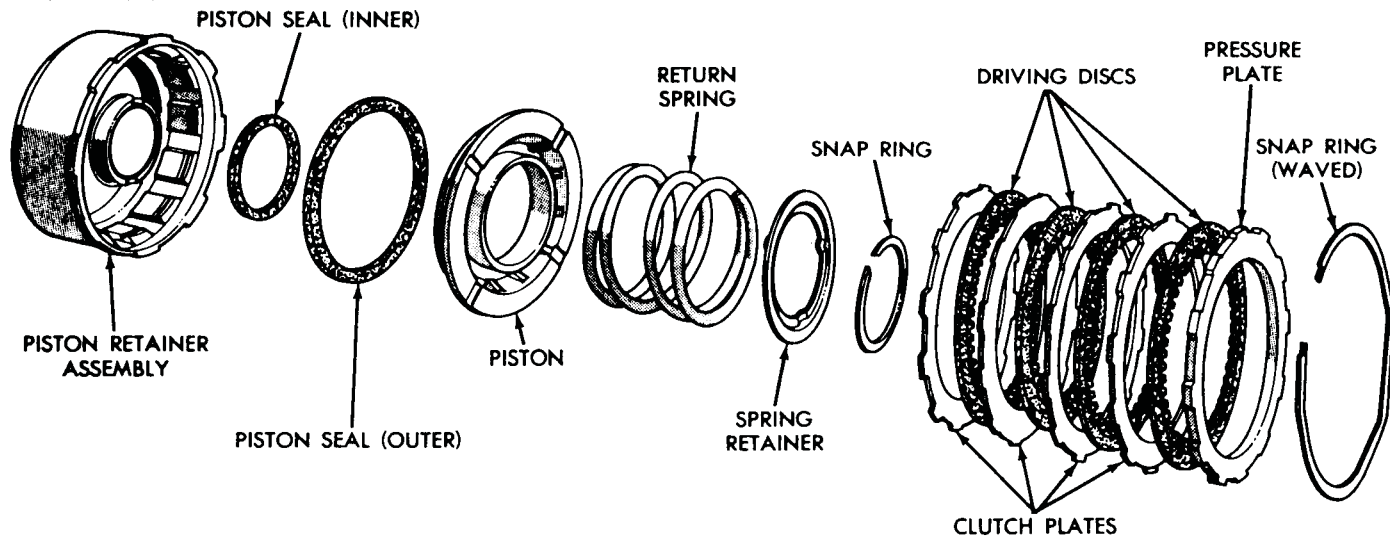
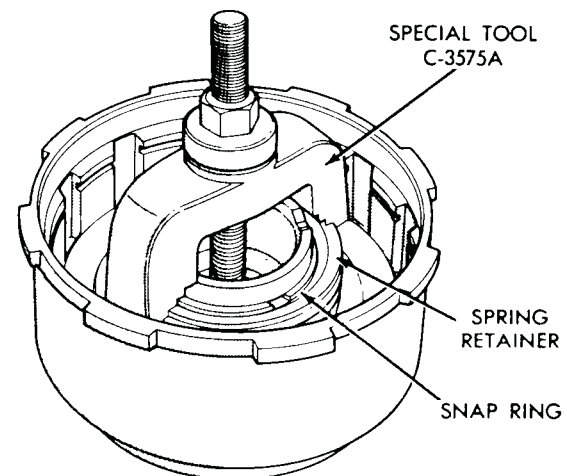
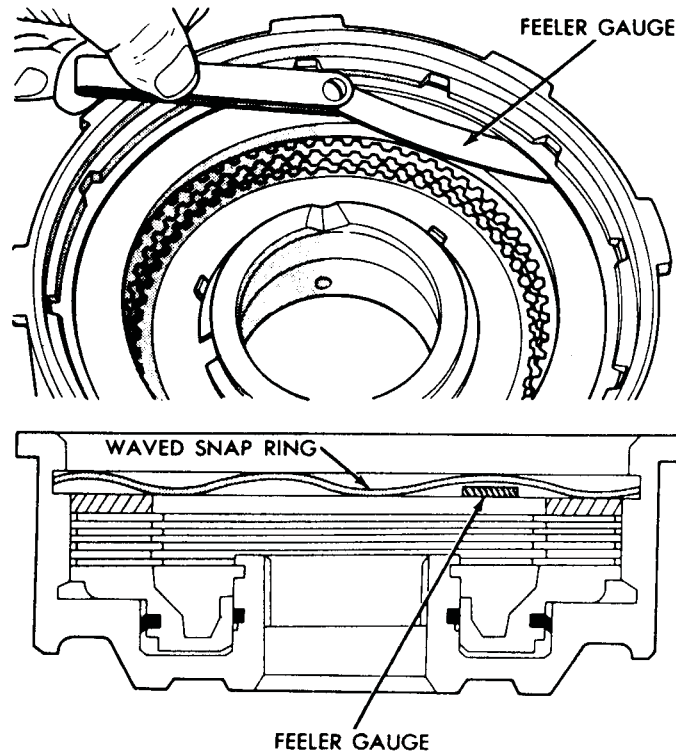

Fig. 13—Front Clutch
Fig. 14—Front Clutch Spring Retaining Snap Ring
Fig. 16—Measure Front Clutch Plate Clearance
Figure 13 shows a disassembled view of the front clutch assembly.
(1) Remove large waved snap ring that secures pressure plate in the clutch piston retainer. Lift pressure plate and clutch plates out of the retainer.
(2) Install compressor Tool C-3575A, over piston spring retainer (Fig. 14). Compress spring and remove snap ring, then slowly release tool until spring retainer is free of the hub. Remove tool, retainer, and spring.
(3) Invert clutch retainer assembly and bump it on a wooden block to remove the piston. Remove seals from the piston and clutch retainer hub.
(1) Lubricate and install inner seal on hub of clutch retainer. Make sure lip of seal faces down and is properly seated in the groove (Fig. 13).
(2) Install outer seal on the clutch piston, with lip of seal toward bottom of clutch retainer. Apply a coating of wax type lubricant or Door Ease to outer edge of seals and press seal to bottom of its groove around piston diameter for easier installation of piston assembly. Place piston assembly in retainer and carefully seat piston in bottom of retainer.
(3) Place spring on piston hub and position spring retainer and snap ring on the spring. Compress spring with Tool C-3575A (Fig. 14), and seat snap ring in hub groove. Remove compressor tool.
(4) Lubricate all clutch plates, install one steel plate followed by a lined plate (disc) until the number given in specifications is installed. Install pressure plate and snap ring. Make sure snap ring is properly seated.
(5) Insert a feeler gauge between pressure plate and waved snap ring to measure maximum clearance where snap ring is waved away from pressure plate (Fig. 16). See "Specifications" for allowed clearance.